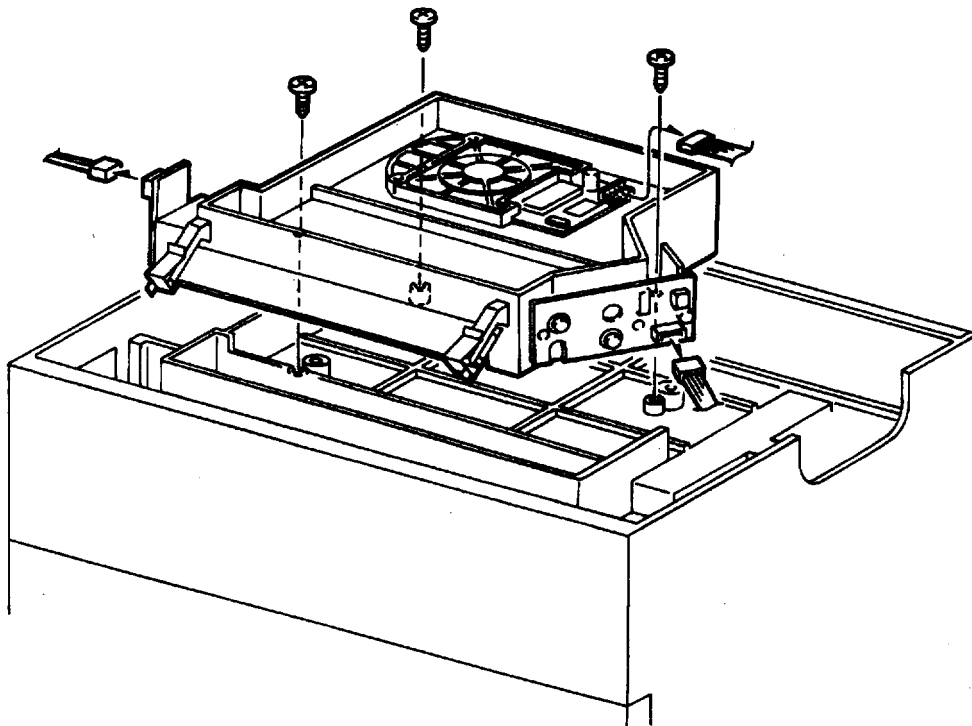

Figure 4-28. Removing the Laser Scanner
2. Disconnect P/J121 on the Laser Diode PWBA (Figure 4-28).